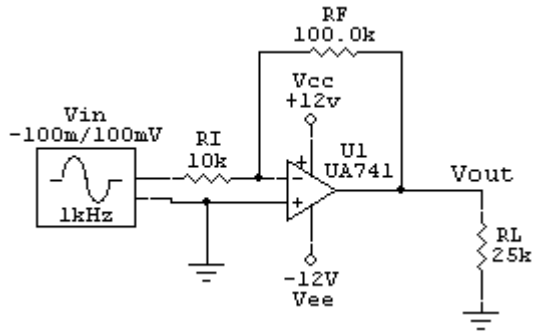

Figure 3.14. A 10X Amplifier Circuit. In this configuration, voltage gain = RF/RI .
The next example demonstrates how to use all of the analyses and how to take simple measurements using the cursors in the analysis windows. Let's create a basic 10X amplifier circuit using a μ A741 Op Amp as shown in Figure 3.14.
- 15 Click and drag the labels so they are positioned as shown on the schematic in Figure 3.14.